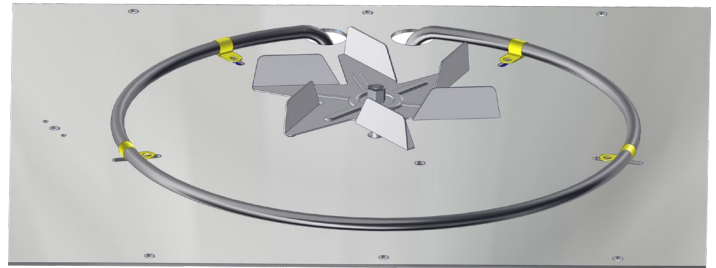
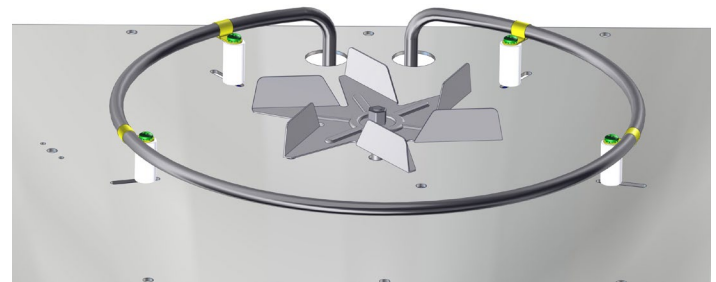
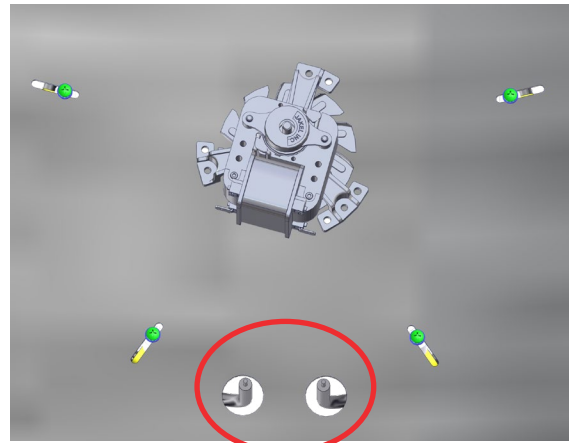

Fig. 9: Insert clamps and align
Fig. 10: Attach screws and ceramics
Fig. 11: Heater Element centered in holes
1. Remove four 8 X 1-5/8" self-tapping screws (Table 1, Item 4) from outside Top Panel (Table 1, Item 1). Remove outside Top Panel and set aside (Fig. 9).
2. While keeping the spade ends centered in the holes, fasten 4 Heating Element Clamps onto the Heating Element. Align the clamps with the 4 slots holes on the element tray. Turn the connectors on the clamps to the inside of the heater element. Squeeze the clamps tight around the heater element coil (Fig. 9).
3. Re-attach four 8-32 X 1/2" pan head screws and lockwashers through the slotted holes in the element tray from the bottom side. Do not tighten at this time so they can be properly located. Apply one (1) drop of 262 Loctite onto the threads of each screw and thread a ceramic standoff onto each screw.
4. Replace the heater element (spade-end through the large holes as before) and position the heater element clamps over the ceramic standoffs (Fig. 10).
5. Apply one drop of 262 Loctite to the threads of four (4) 8-32 x 1/2" Phillips pan head screw with locks. Insert the screws through the slotted holes into the connectors on the clamps and screw them into the ceramic standoffs.
6. Recheck the centering of the heater element spade ends in the large holes of the element tray. The ceramic standoffs may need to be slid in the slots of the element tray to get the element centered in the large holes (Fig. 11).